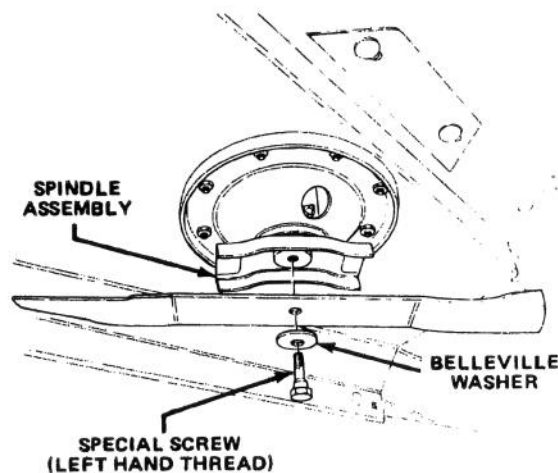

Figure 29
2. Grasp end of blade using a rag or thickly padded glove. Remove special screw, Belleville washer and blade from spindle assembly (Fig. 29).